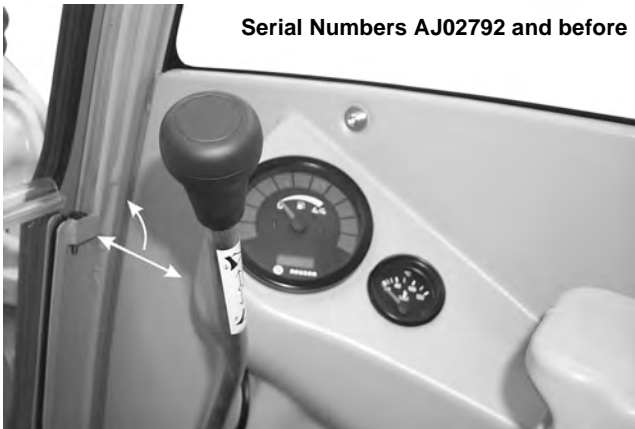

Figure 3-45 Dozer Blade Control
1. Raise or lower the dozer blade using the control lever/pedal located to the right of the travel levers/pedals. See Figure 3-45. Move the control forward to lower the dozer blade, rearward to raise the dozer blade.